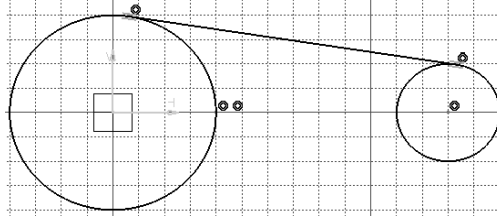

Figure 3-53 The sketch after drawing the first tangent line
9. Move the cursor to the first quadrant of the second circle and specify the endpoint of the line on its circumference; a tangent line is drawn, as shown in Figure 3-53.